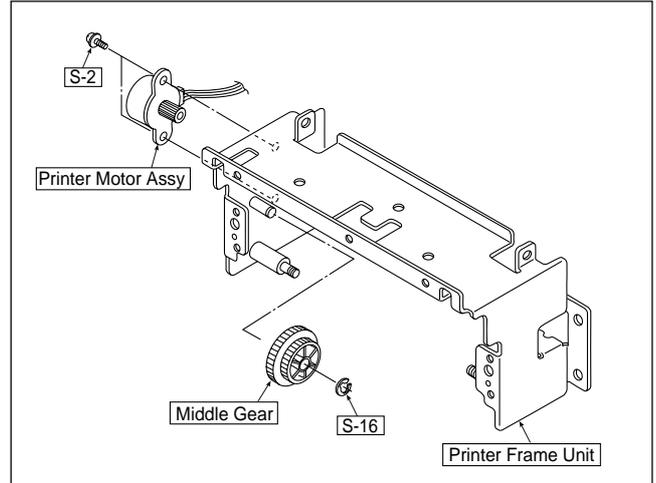

Fig. 17
15) Remove the Printer Motor Assy, Middle Gear. (See Figure 17.)
1. Remove the "S-2" screws as shown in Figure 17 and remove the Printer Motor Assy. (Tightening torque :  $6 \pm 1.8 \text{kgfcm}$ )
2. Remove the "S-16" E-ring as shown in Figure 17 and remove the Middle Gear.